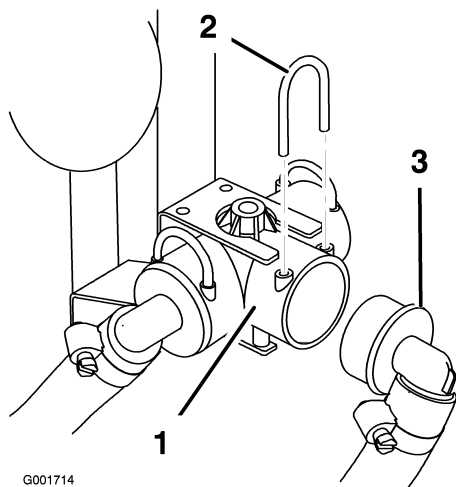

Figure 7
1. Locate the valve assembly on the right side of the tank, remove the retaining fork to disconnect the boom supply hose from the supply tee (Figure 7).